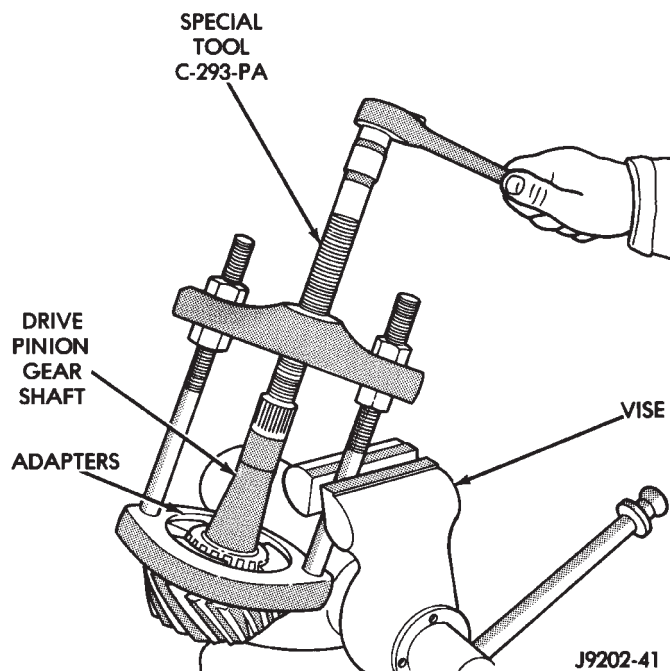

Fig. 30 Inner Bearing Removal
- (9) Remove the inner bearing from the pinion with Puller C-293PA and Adapter C-293-39 (Fig. 30).